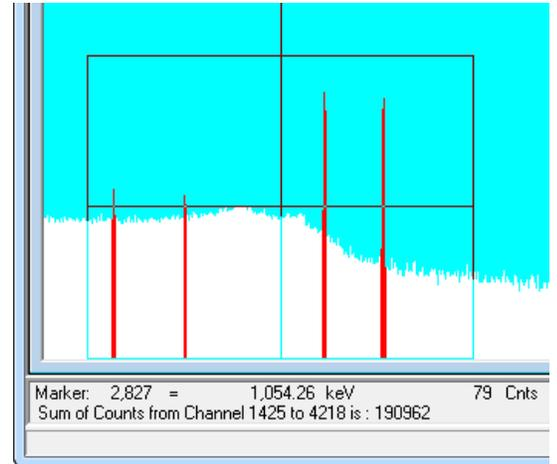

Figure 73. Summing the Channels In a Rubber Rectangle.
- 3) You can also sum a region by marking it with a rubber rectangle, then selecting **Sum** (Fig. 73).